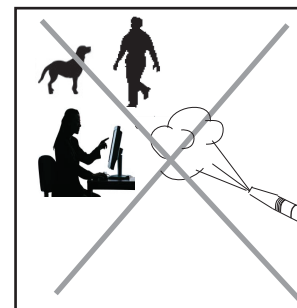

Fig. 3
- Do not point the steam jet towards yourself and/or towards other people, animals, or materials that are sensitive to high temperatures and/or dampness. (**Fig.3**)
- Do not unscrew the boiler drain plug (J) when the appliance is operating. Before unscrewing the cap, make sure the steam pressure boiler is no longer pressurized;